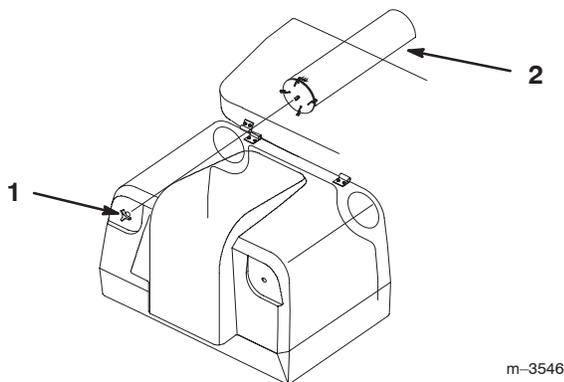

Figure 99
- With the door open, remove the knobs at the upper front of the hopper and slide the screens out the rear of the hopper (Fig. 99).
- Replace the screens and secure with knobs (Fig. 99). Close and latch the hopper door.